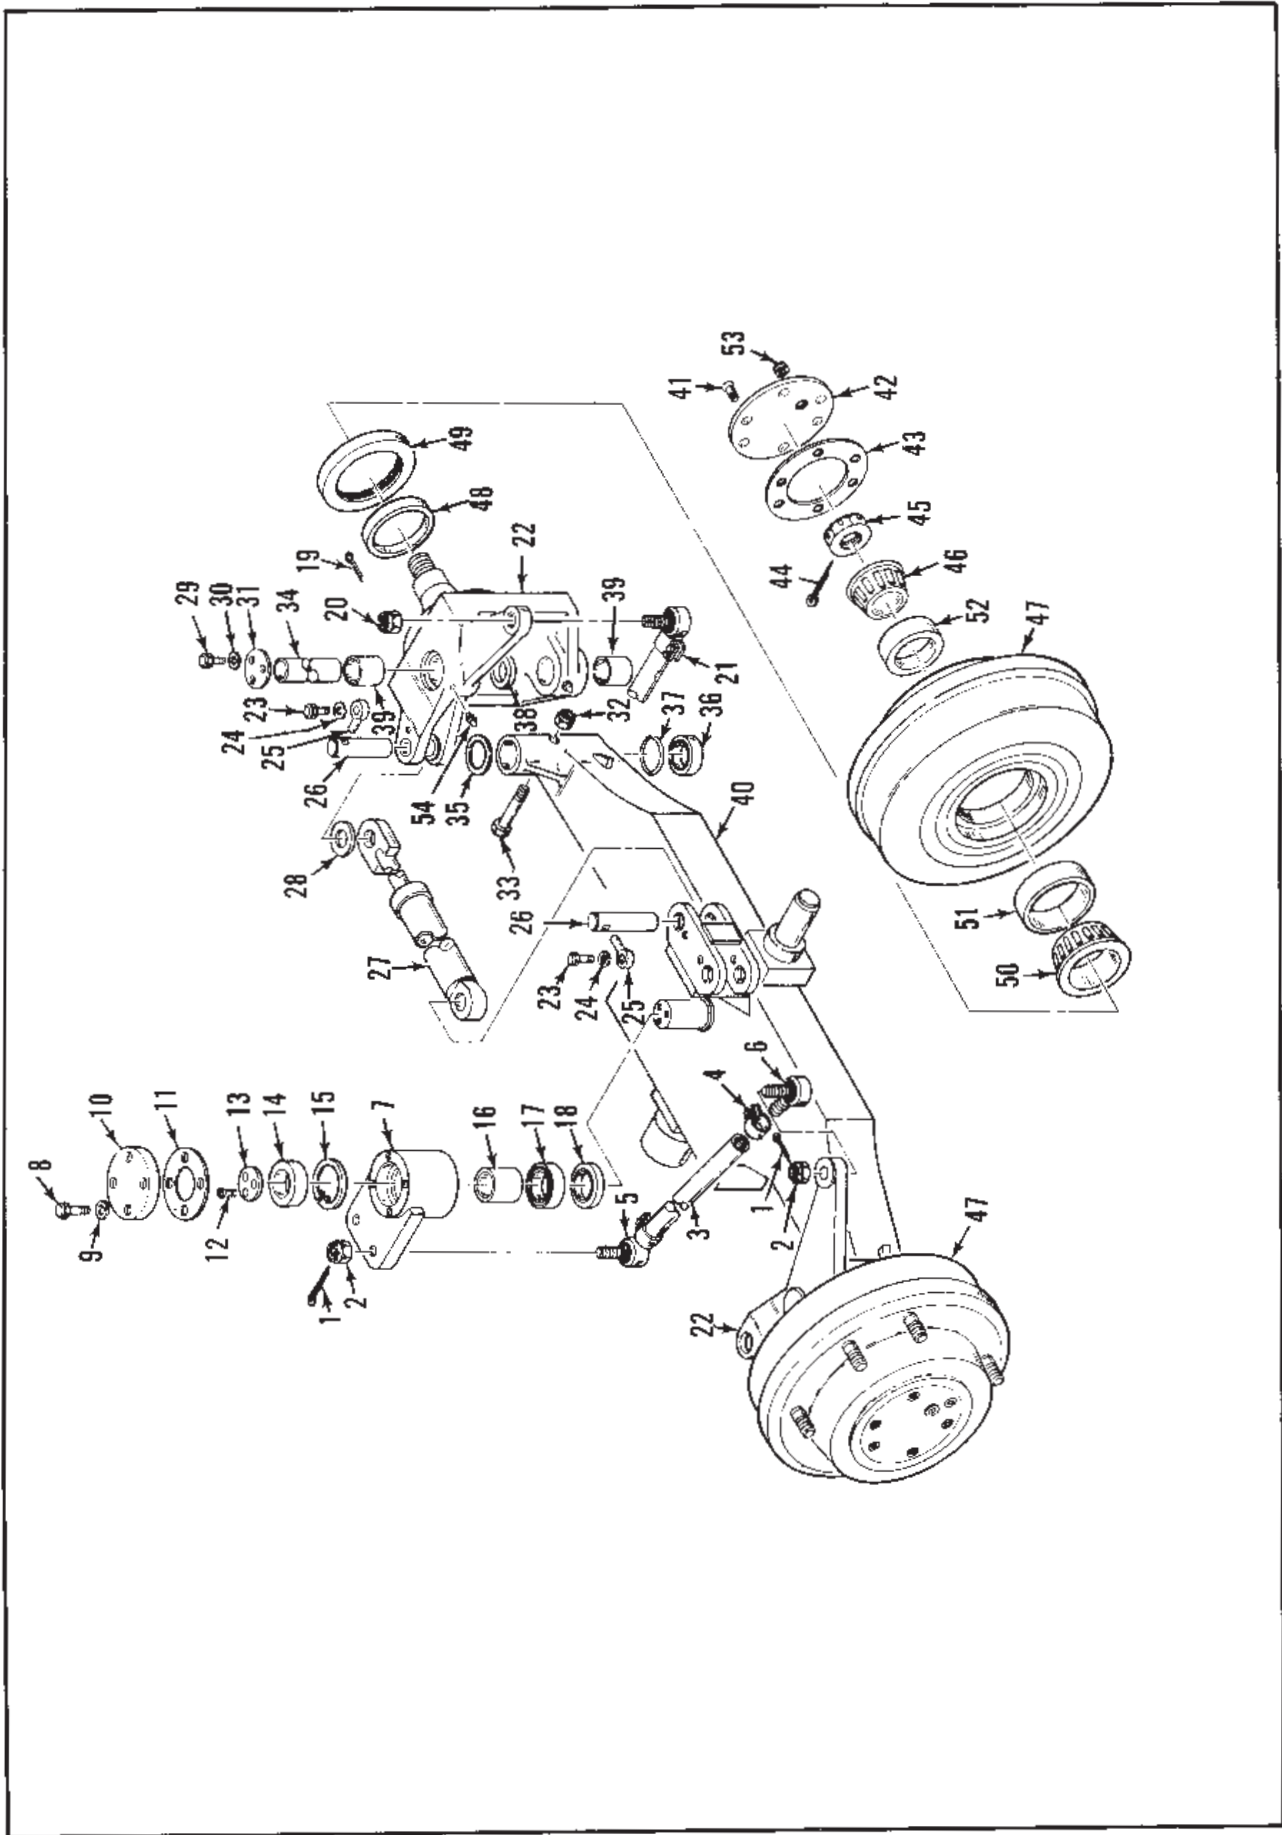

Figure 13-2. Steer Axle, Exploded View (View 1 of 2)
1. Tie Rod Assembly (Figure 13-2).
- a. Remove the cotter pins (1), castellated nuts (2), and tie rod assembly (3).
- b. Loosen the clamps (4) sufficiently to unscrew and remove the tie rod ends (5 and 6).
2. Spider Assembly (Figure 13-2).
- a. Disconnect the tie rods (3) from the spider (7).